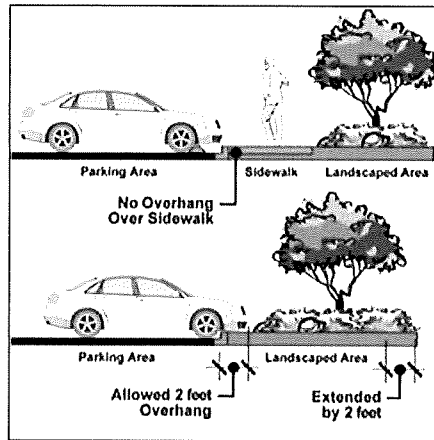

Figure 07: Curb and wheel guard provisions for pedestrian walkways and landscaping.
(4) **Parking Spaces Adjacent to Landscaping & Sidewalks.** Vehicles may not overhang into landscaping and parking spaces adjacent to landscaping shall be equipped with a curbing extended by two feet to protect landscaping from damage or interfere with plant growth or its irrigation. (See Figure 07)